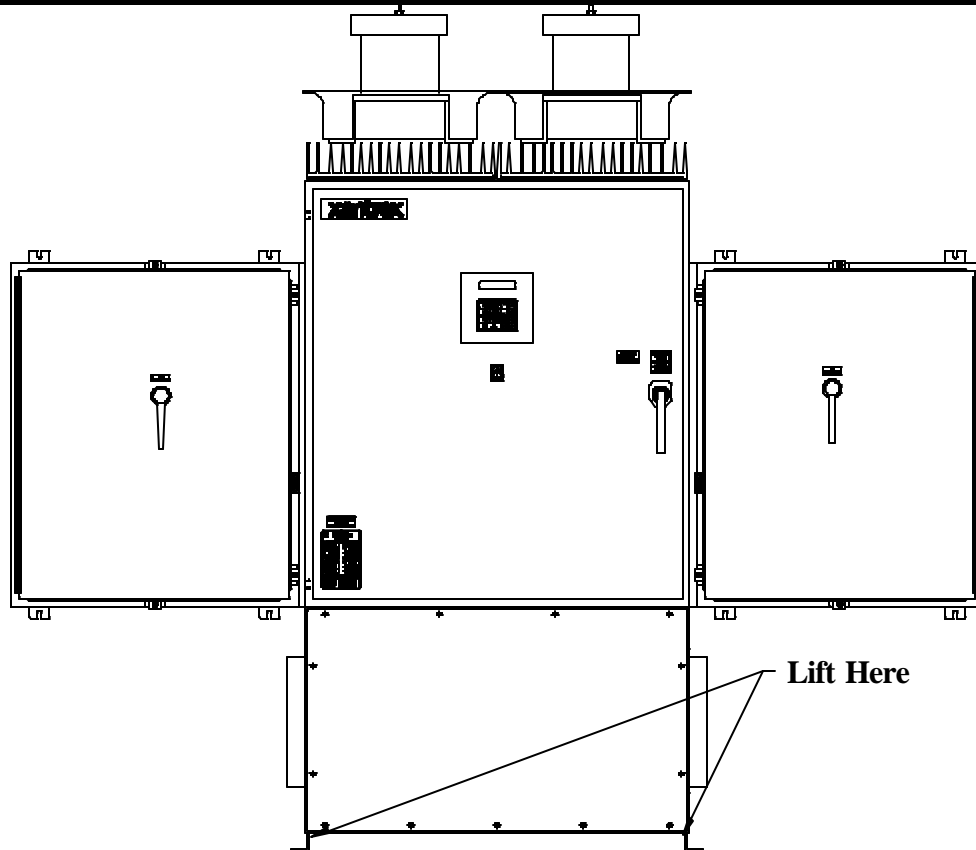

Figure 3-1
1. Move the PV-225208 into place. Lift the PV-225208 from beneath the lower enclosure with a forklift as shown in **Figure 3-1**. (See following page.)